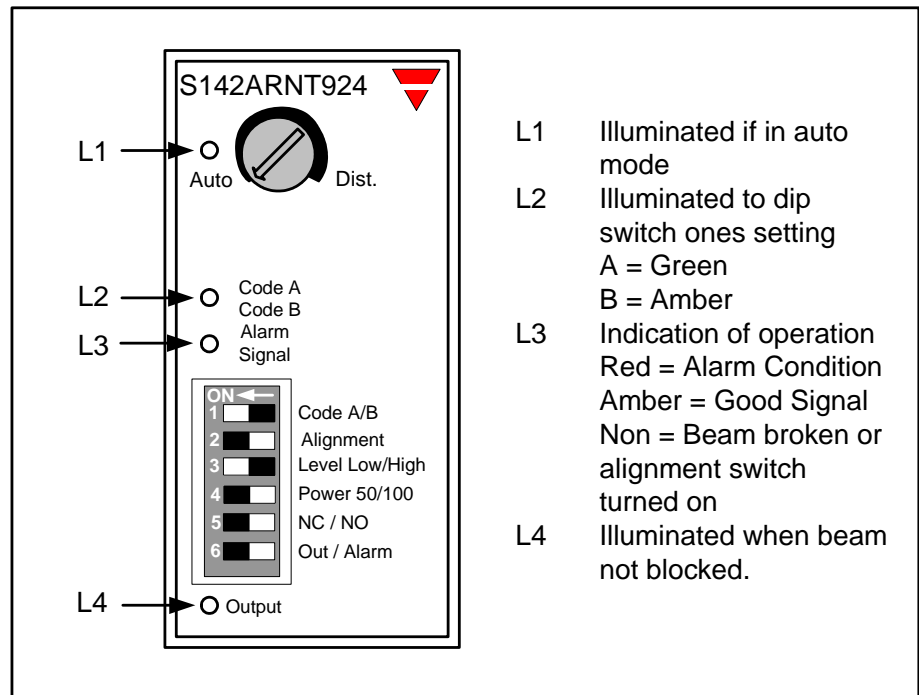

Figure J-1: Photo cell amplifier
4. Lights 1 and 2 will illuminate green. Lights 3 and 4 will illuminate amber. Refer to Figure J-1.